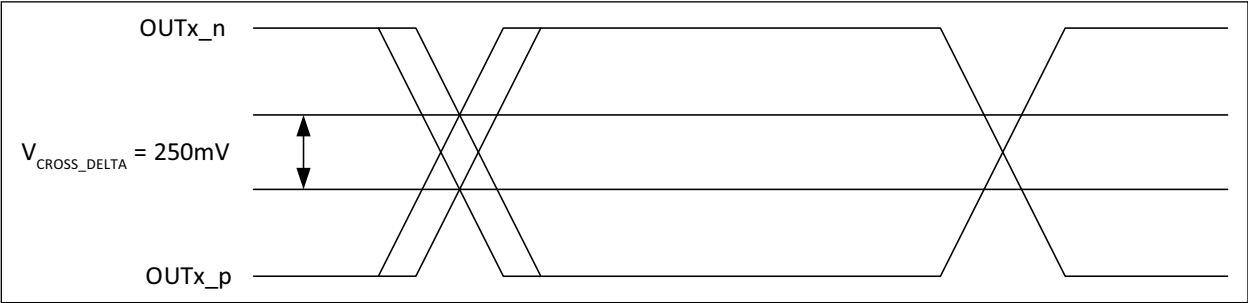

FIGURE 1-2: Single-Ended Measurement Points for Delta Cross Point.
- 6:** Defined as the total variation of all crossing voltages of Rising $OUTx_p$ and Falling $OUTx_n$. This is the maximum allowed variance in V_{CROSS} for any particular system. See Figure 1-2.